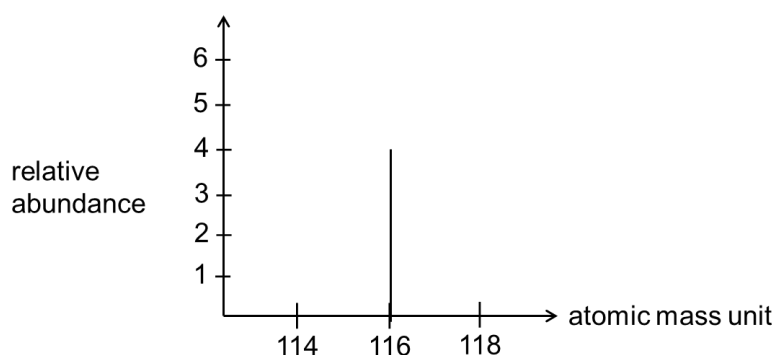

Fig. 6.2
- (iv) Hence, calculate the relative abundance of BrCl with atomic mass unit of 114 and 118 and complete Fig 6.2.